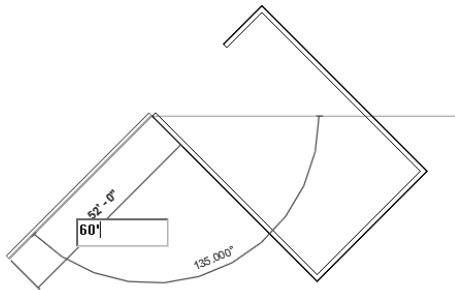

Figure 3-43 Sketching the fifth inclined wall segment
8. Similarly, create the fifth inclined wall segment of 60'0" length, as shown in Figure 3-43.